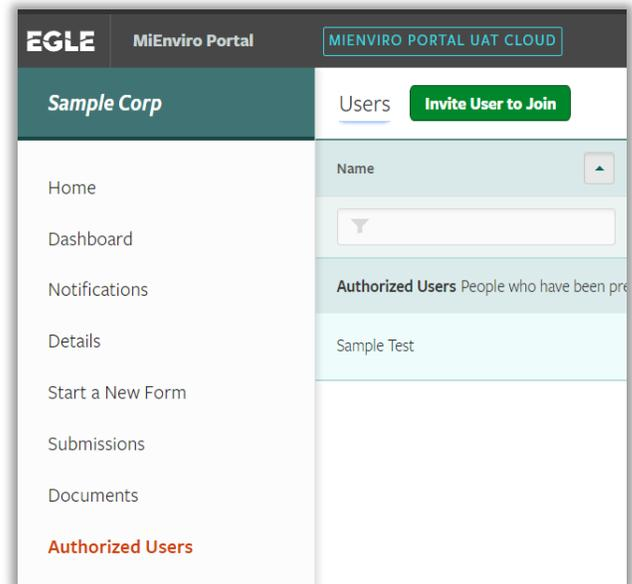

Figure 6-16 – Invite User
Step 3: Click on **Invite User to Join** (Figure 6-16).